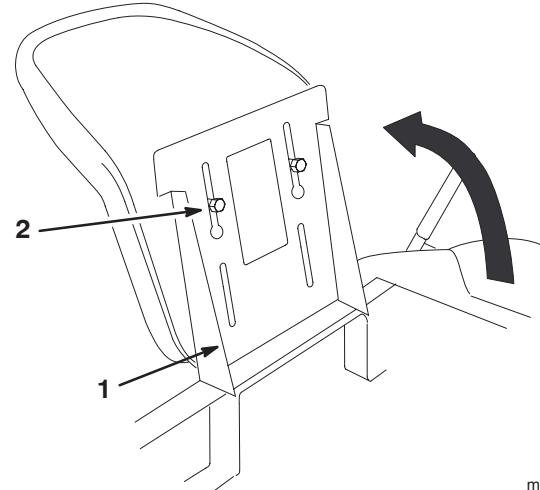

Figure 5
2. Raise the seat support on the machine (Fig. 5).
3. Slide the shoulder bolts on the bottom of the seat into the slots in the seat support (Fig. 5).